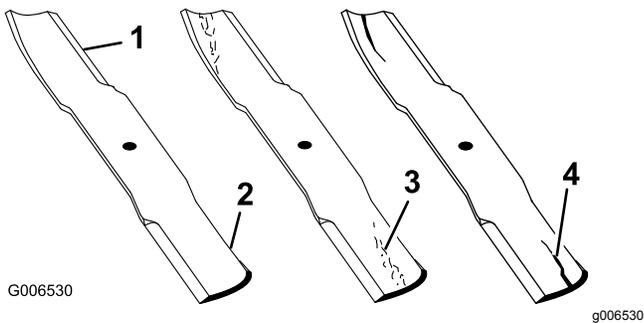

Figure 96
1. Inspect the cutting edges (Figure 96). If the edges are not sharp or have nicks, remove and sharpen the blades.
2. Inspect the blades, especially the curved area (Figure 96). If you notice any damage, wear, or a slot forming in this area (Figure 96), immediately install a new blade.